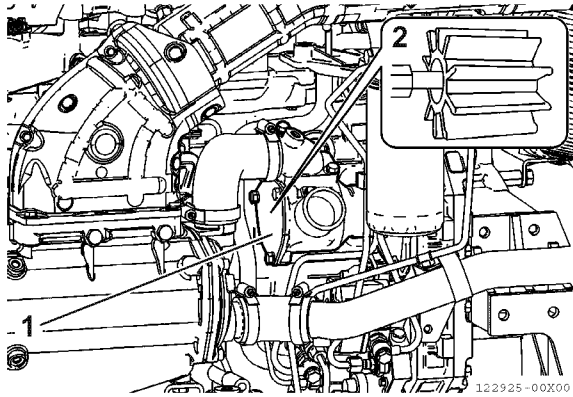

Figure 19
- After having accessed the impeller, remove the rear cover (Figure 19, (1)).
- Insert a screw (Figure 19, (2)) M16 X 1.5 into the impeller shaft.
- Remove the rotor by slowly loosening the screw (Figure 19, (2)).